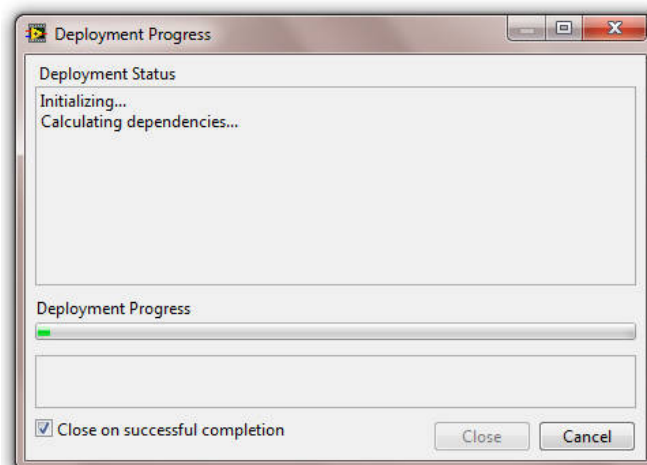

FIGURE 3.8 The deployment pop-up window.
5. Click the white “Run” arrow on your Joystick Info VI. This will cause it to be compiled and downloaded to the cRIO. You will get a pop-up window that starts out looking like Fig. 3.8. You may be asked to save a lot of VIs you have never heard of. Just agree to save them. Sometimes this process will fail, but then work fine when you try it again. Sometimes you will have to cycle the power on the cRIO and radio before it will work. An alternative strategy to isolate where a communication problem lies is to use a cable direct from your laptop to the radio/router, or to the cRIO itself. If you have an older cRIO with two Ethernet ports, you must plug your laptop into Port 1.